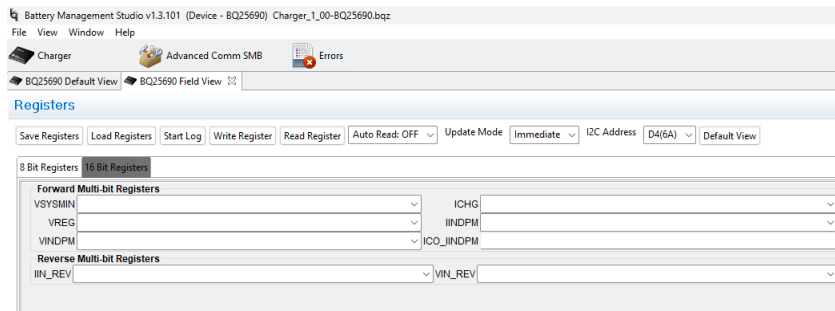

Figure 3-2. Field View of 8 Bit and 16 Bit Register Tabs of BQ25690 EVM Software
3. Toward the right side of the ribbon on the window that appears select  for the main window of the BQ2569x EVM software to appear, as shown in Figure 3-2.